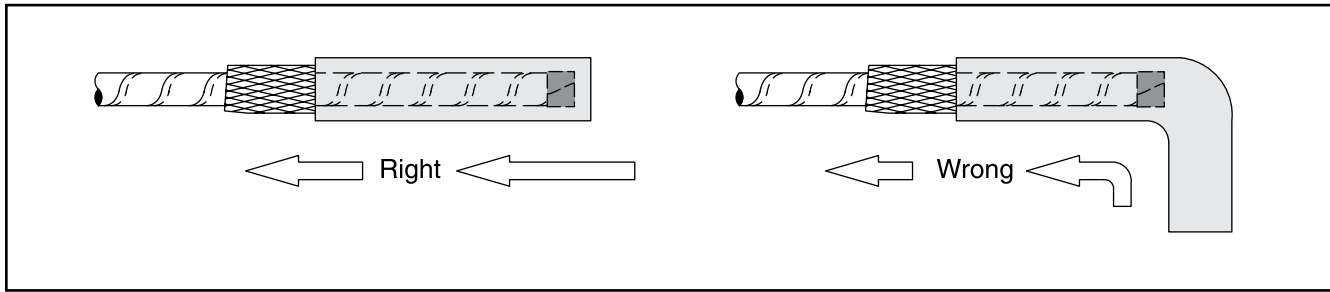

Figure 14
- 5.5 Guide one rejacketing sleeve assembly over each cable phase leg (*Figure 14*). **Push sleeve assembly from above. Continuously guide the free end maintaining sleeve-to-cable-core alignment.**